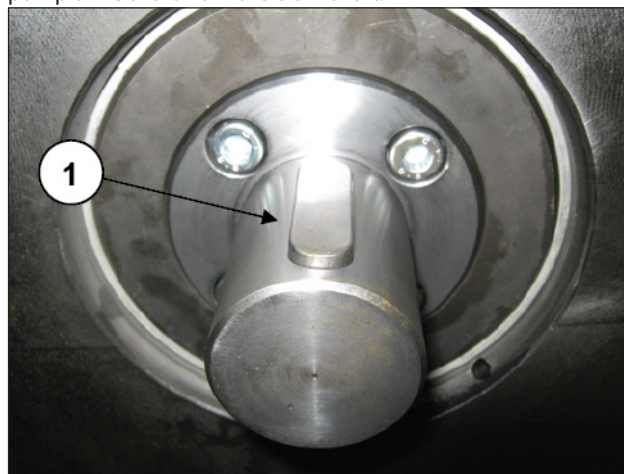

Fig. 23
Remove the key from the lube pump drive shaft (pos. ①, Fig. 23).